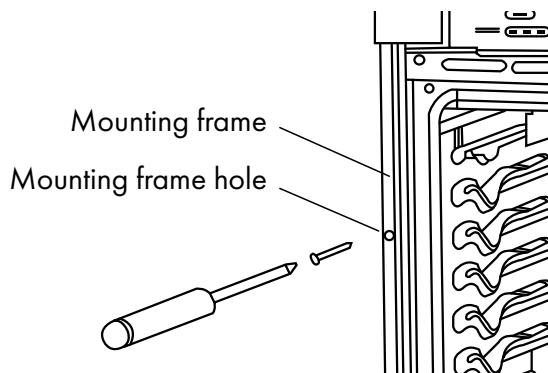

Figure 1
3. Insert the four #8-14 x 1" screws (provided) through the pilot holes to securely fasten the upper and lower ovens to the cabinet (Figure 1). Do not overtighten screws.